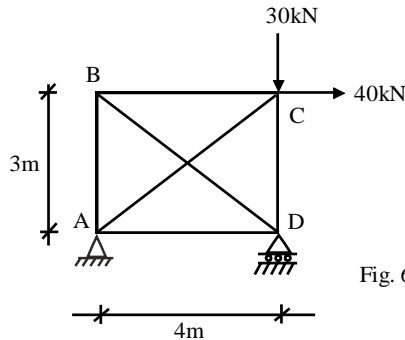

Fig. 6
6. Using the strain energy method find forces in all the member of truss loaded as shown in fig. 6. The c/s area of all the members is same and they made up of same material. 14